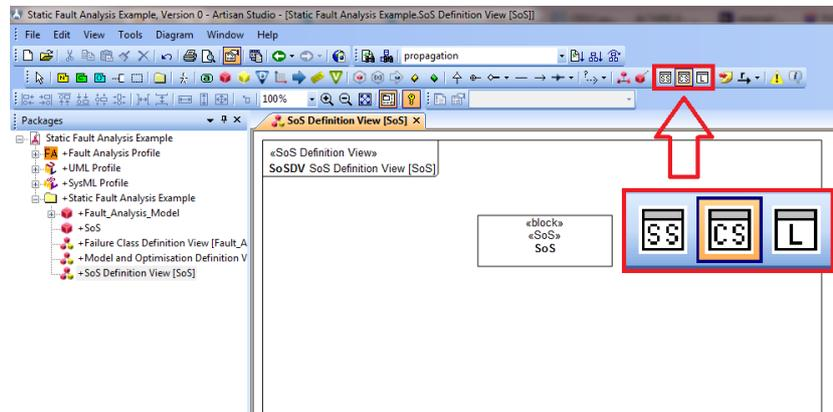

Figure 9: Click on the “CS” button to add a *Constituent* to the view
1. Open the *SoS Definition View* that contains the *SoS* to which you wish to add a *Constituent* navigate to the “CS” button as highlighted in Figure 9